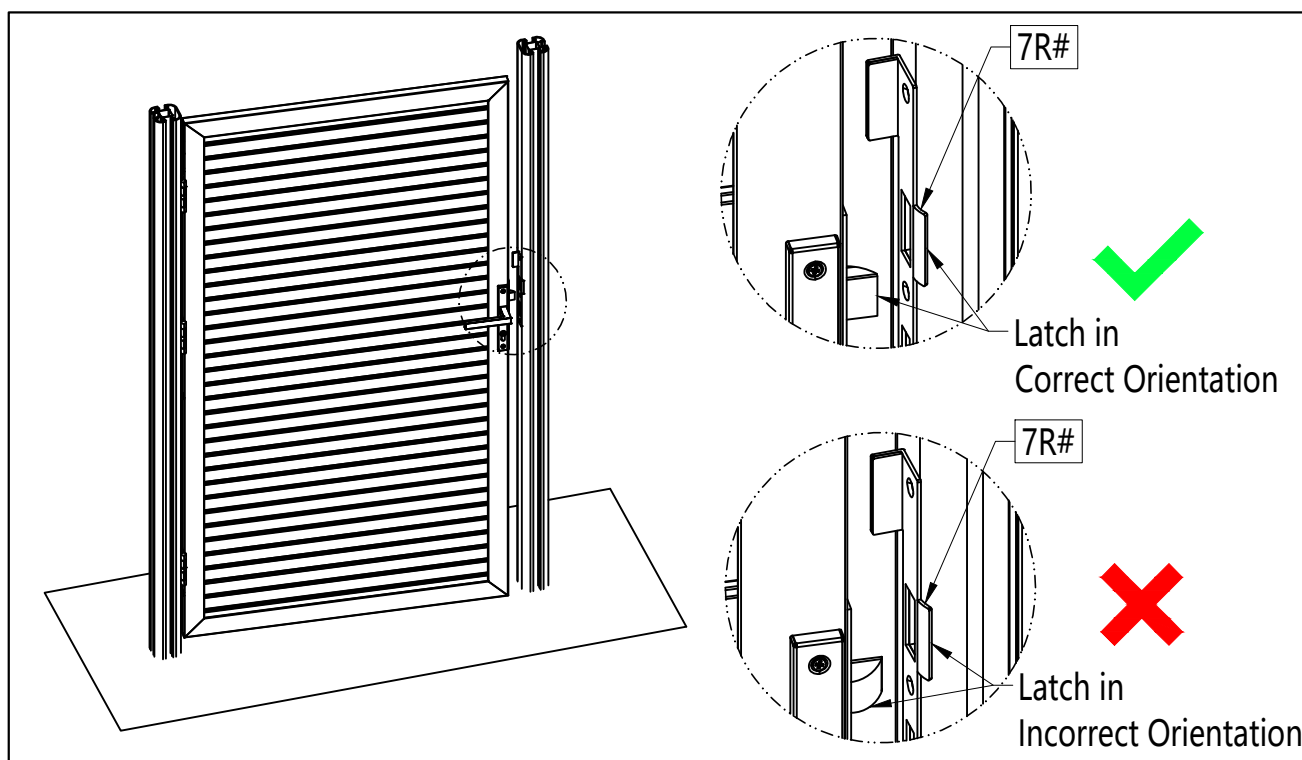

Figure 12.1
- 12 Check the gate lock's latch orientation to see if it is correct, as shown in Figure 12.1.